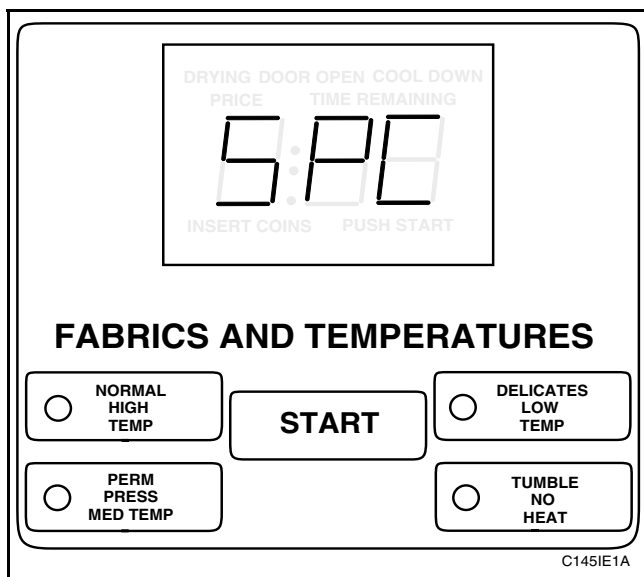

Figure 10
4. The VFD will show “SPC,” *Figure 10*.